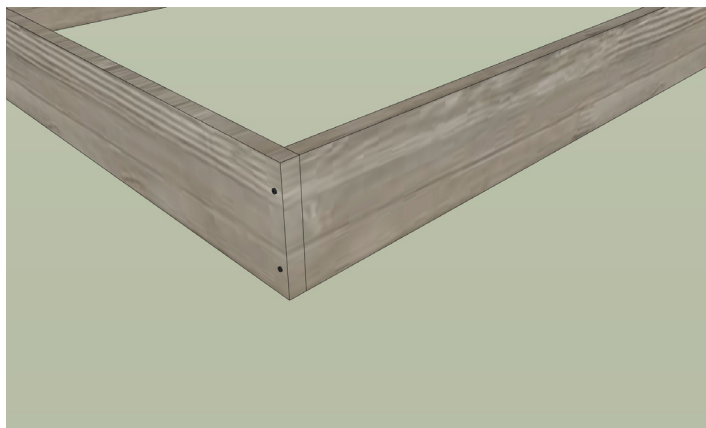

Figure 1 Box corner butt joint detail
1. Make the box: Cut one of the 1"x8"x8' boards in half to create the shorter end pieces of the box, then assemble the box by attaching the boards at the corners with simple butt joints. Pre-drill two holes at each corner and attach with the longer wood screws (Figure 1). Slightly countersink each screw. Make sure all four corners are stably resting on the ground, leave room to walk all the way around the bed, and use string or a tape measure to make sure the box is square (both diagonals should be about the same length, it doesn't have to be exactly perfect).